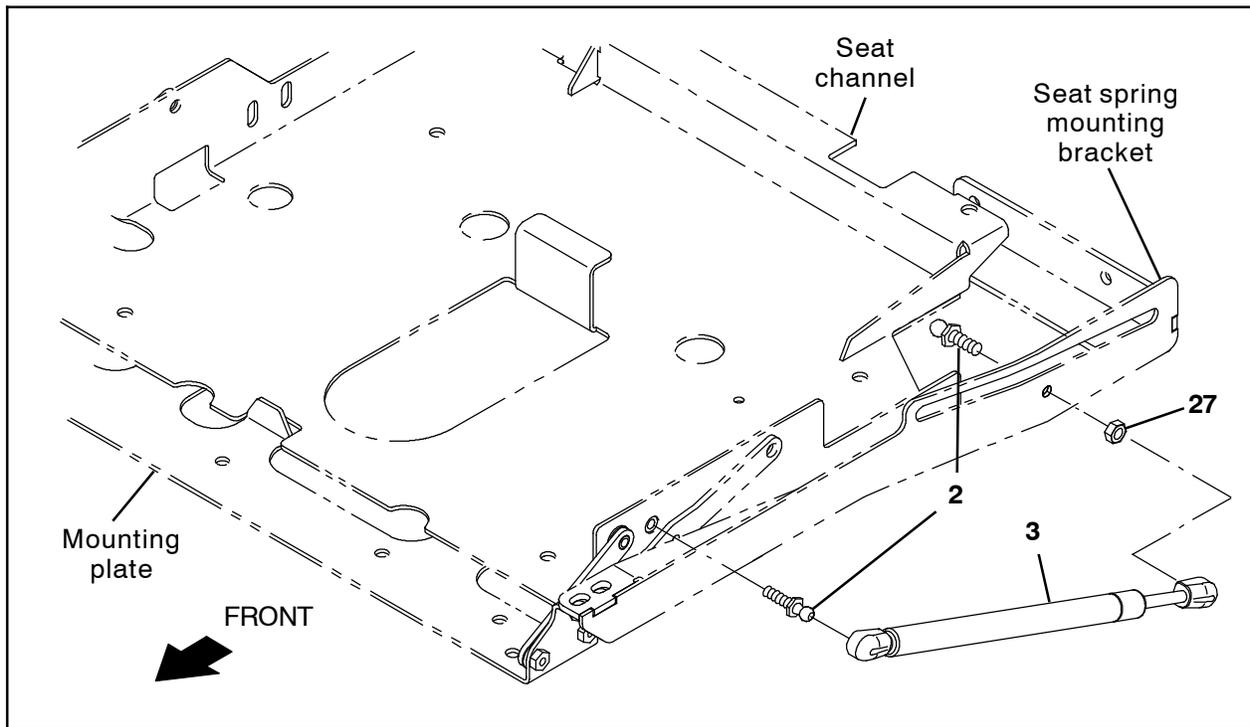

FIG. 4
4. Use one ball stud (2) to install the gas spring (3) onto the seat channel. (Fig. 4)
5. Use another ball stud (2) and hex nut (27) to install the gas spring (3) onto the seat spring mounting bracket. (Fig. 4)